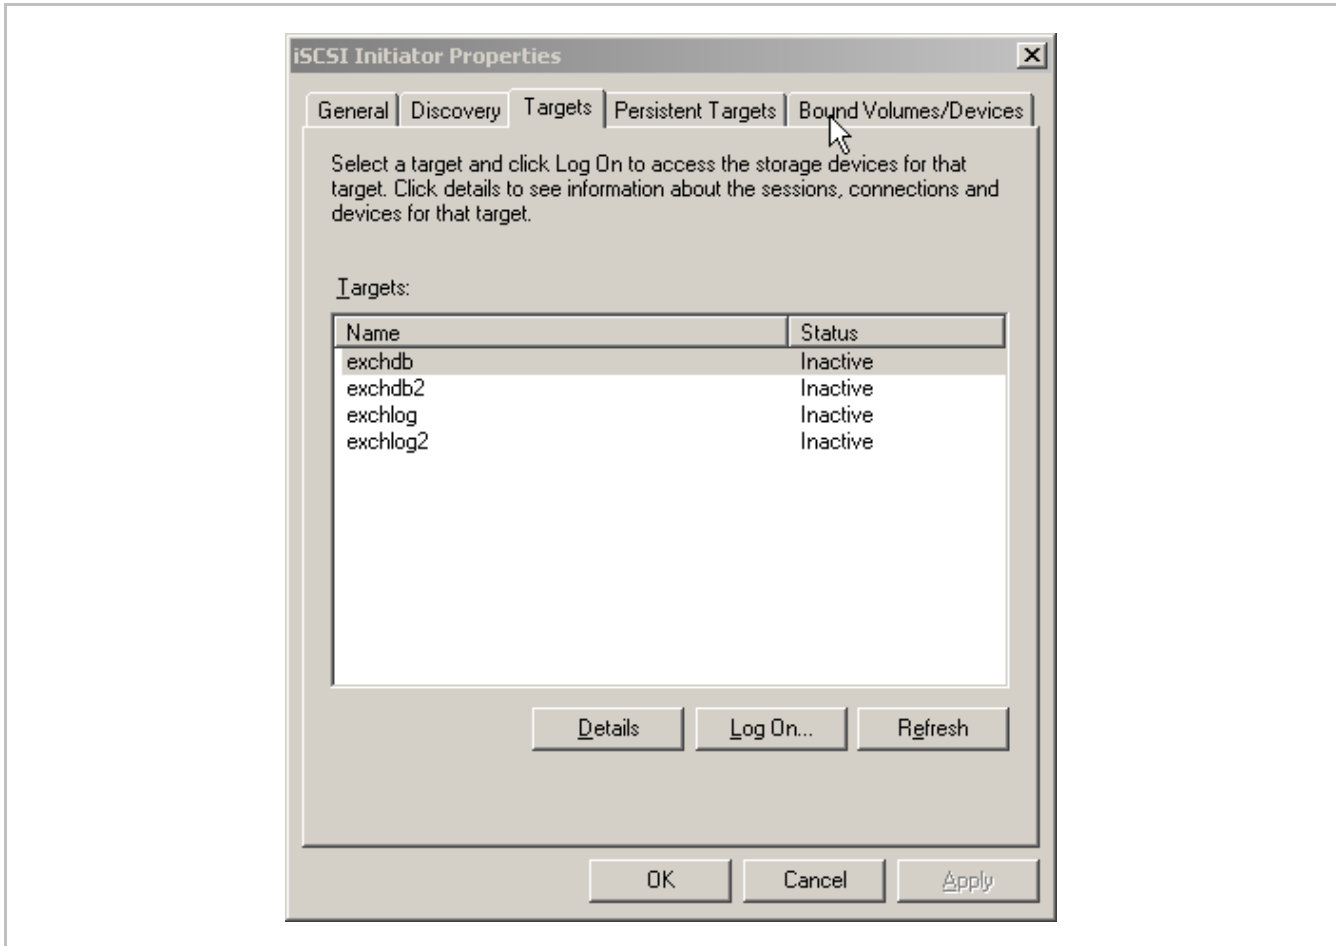

Figure 3. Configure Multi Sessions – iSCSI initiator Properties
2. Click the Target Tab (Figure 3).
8. In the Microsoft iSCSI initiator GUI (Target Tab - Figure 3) choose the same target again and click **[Log On...]**.
1. Open the Microsoft iSCSI initiator GUI and click the Target Tab (Figure 3) and choose the target that was configured with MPIO.